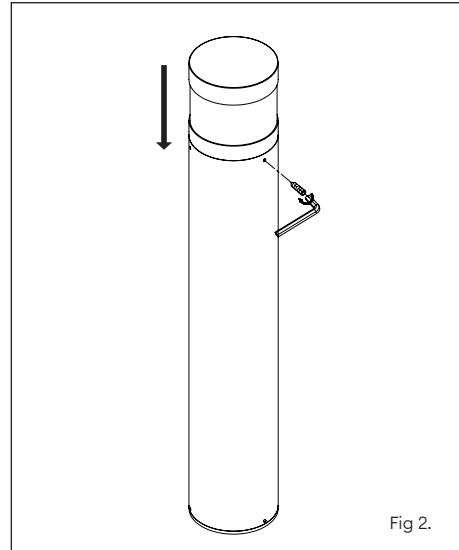

Fig 2.
- Locate the head over post and secure with three side screws (Fig 2).